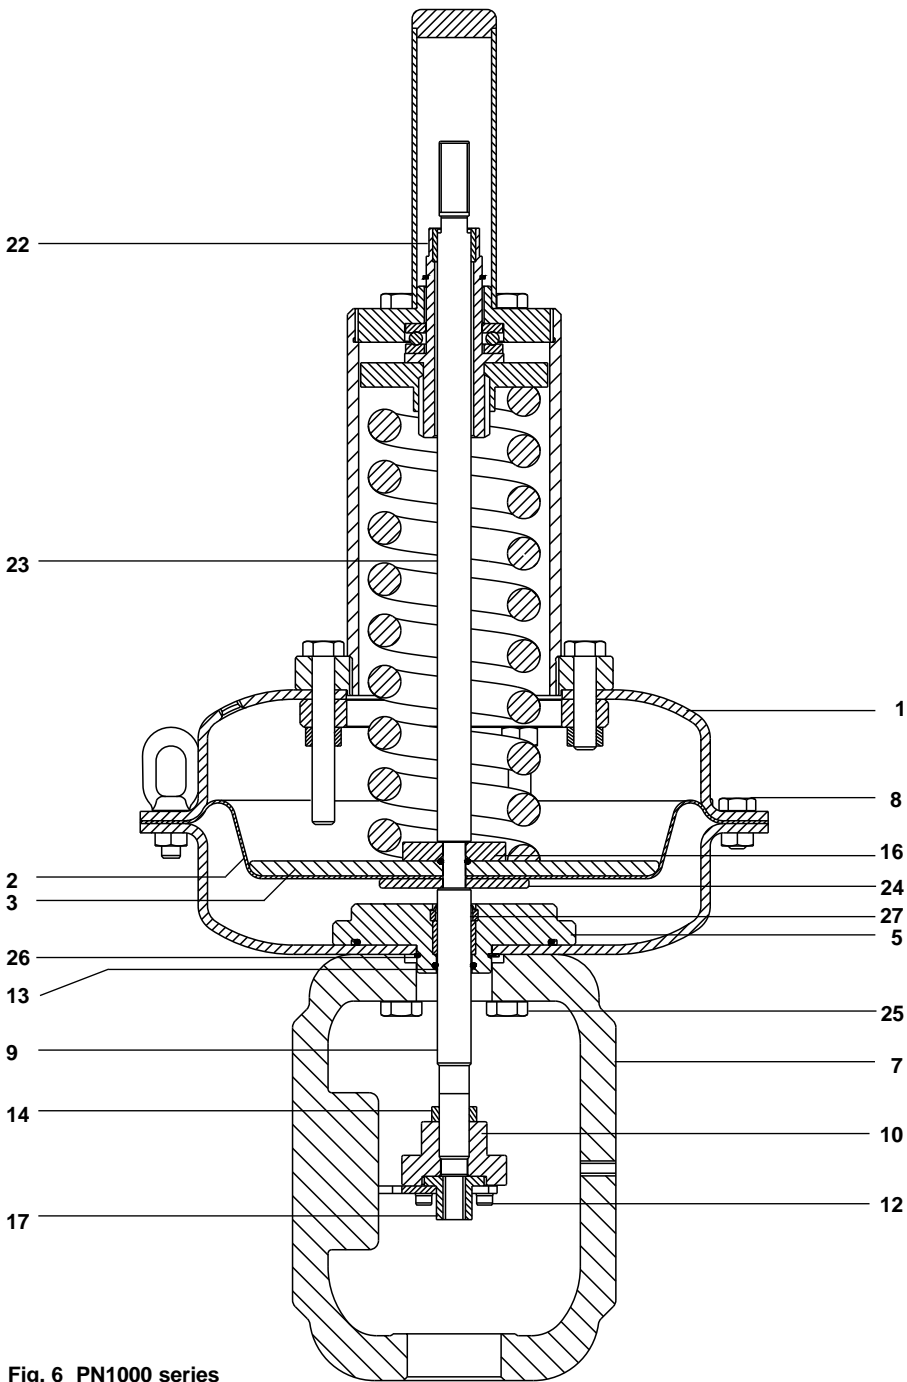

Fig. 6 PN1000 series
To adjust the set point refer to Figure 6, page 11 and proceed as follows:
5.3 PN1000 series (Refer to Figure 6):